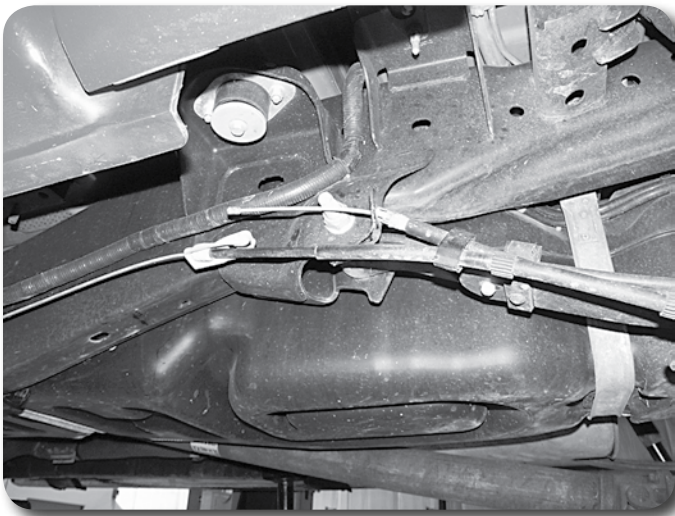

Figure 37
75. Remove the driver's side parking brake cable from the junction bracket (Figure 37).